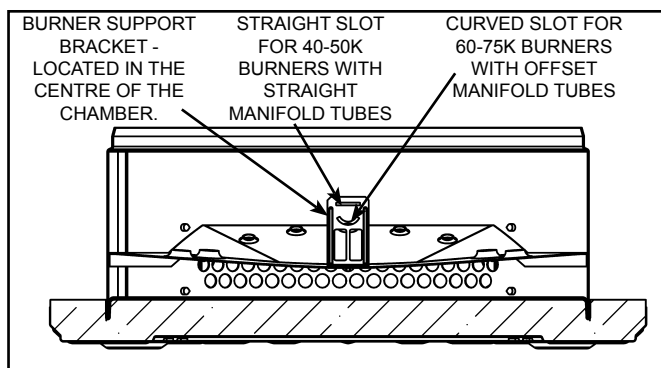

Figure 8
1. Insert the manifold/burner assembly in the burner chamber compartment, making sure that the tip of burner manifold tab engages in the proper slot of the bracket (see Figure 8).